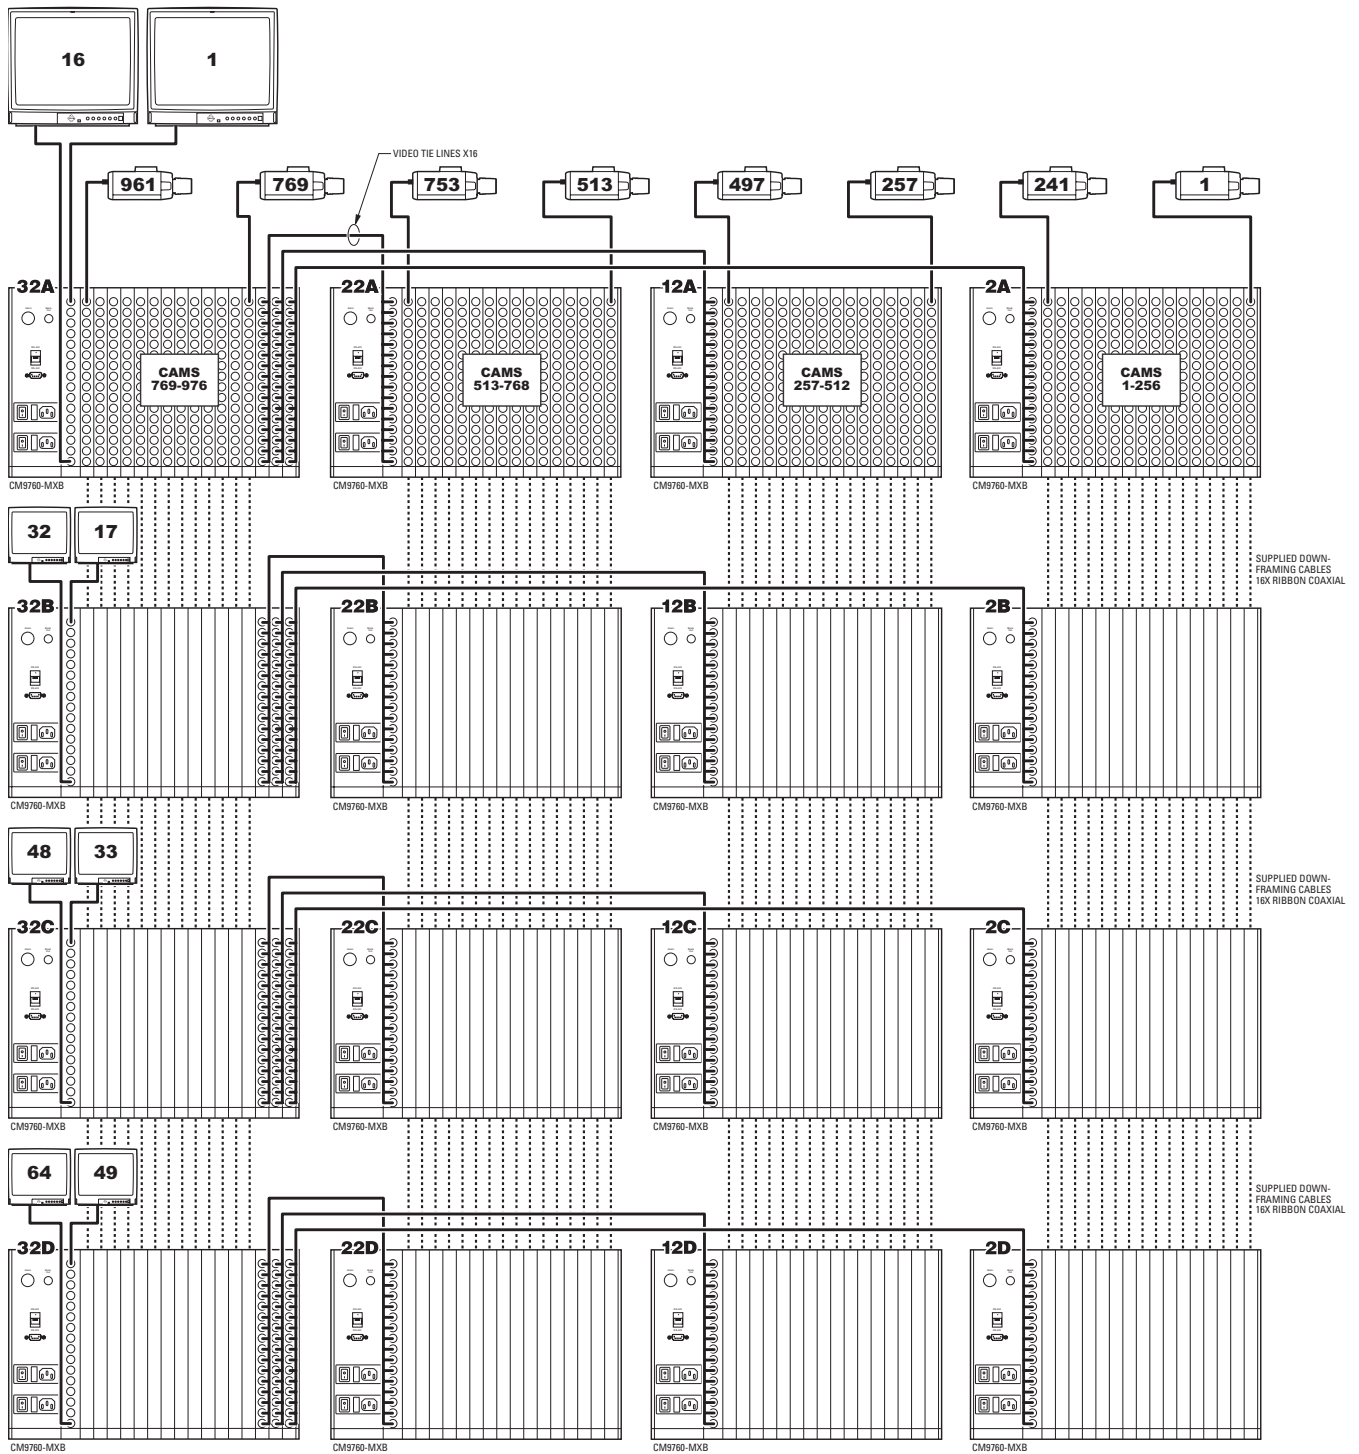

Figure 83. Sideframing and Downframing: 976 x 64 Configuration
- 976 x 64 (refer to Figure 83)